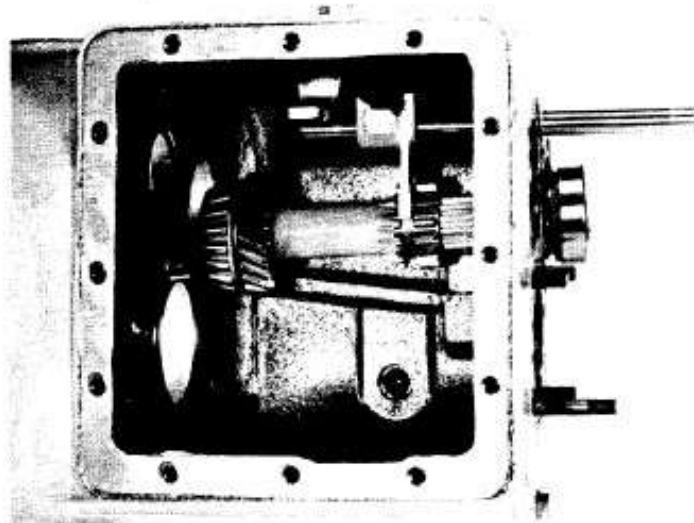

FIG. 12
2. INSTALL MAIN TRANSMISSION DRIVE SHAFT ASSEMBLY (REF. FIG. 12)
3. INSTALL REVERSE SHIFT FORK AND RAIL (REF. FIG. 12)